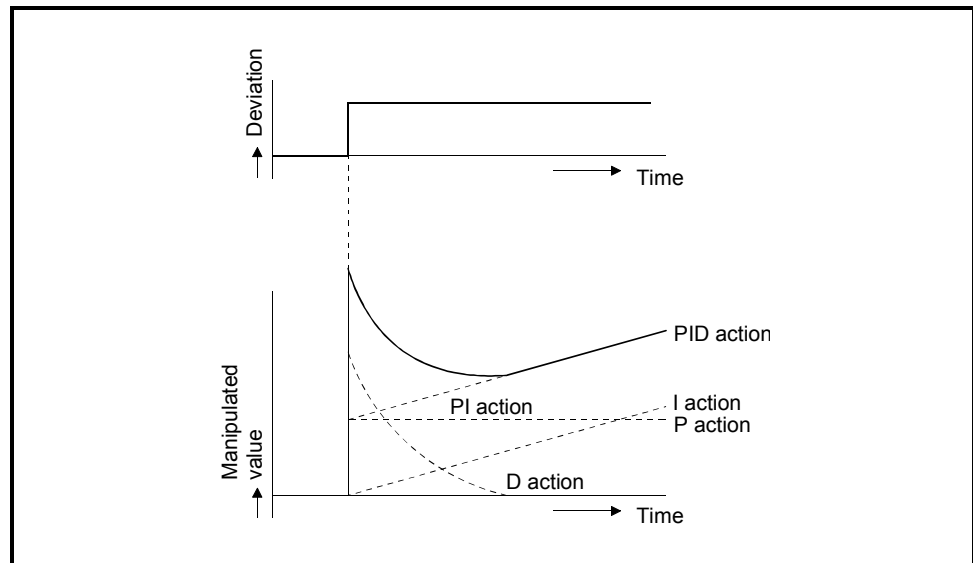

Fig. 1.11 PID action for step response
- (1) The PID action performs control using the manipulation value obtained by merging proportional action, integral action and derivative action.
- (2) The PID action for the step response when the deviation is constant is shown in Figure 1.11.